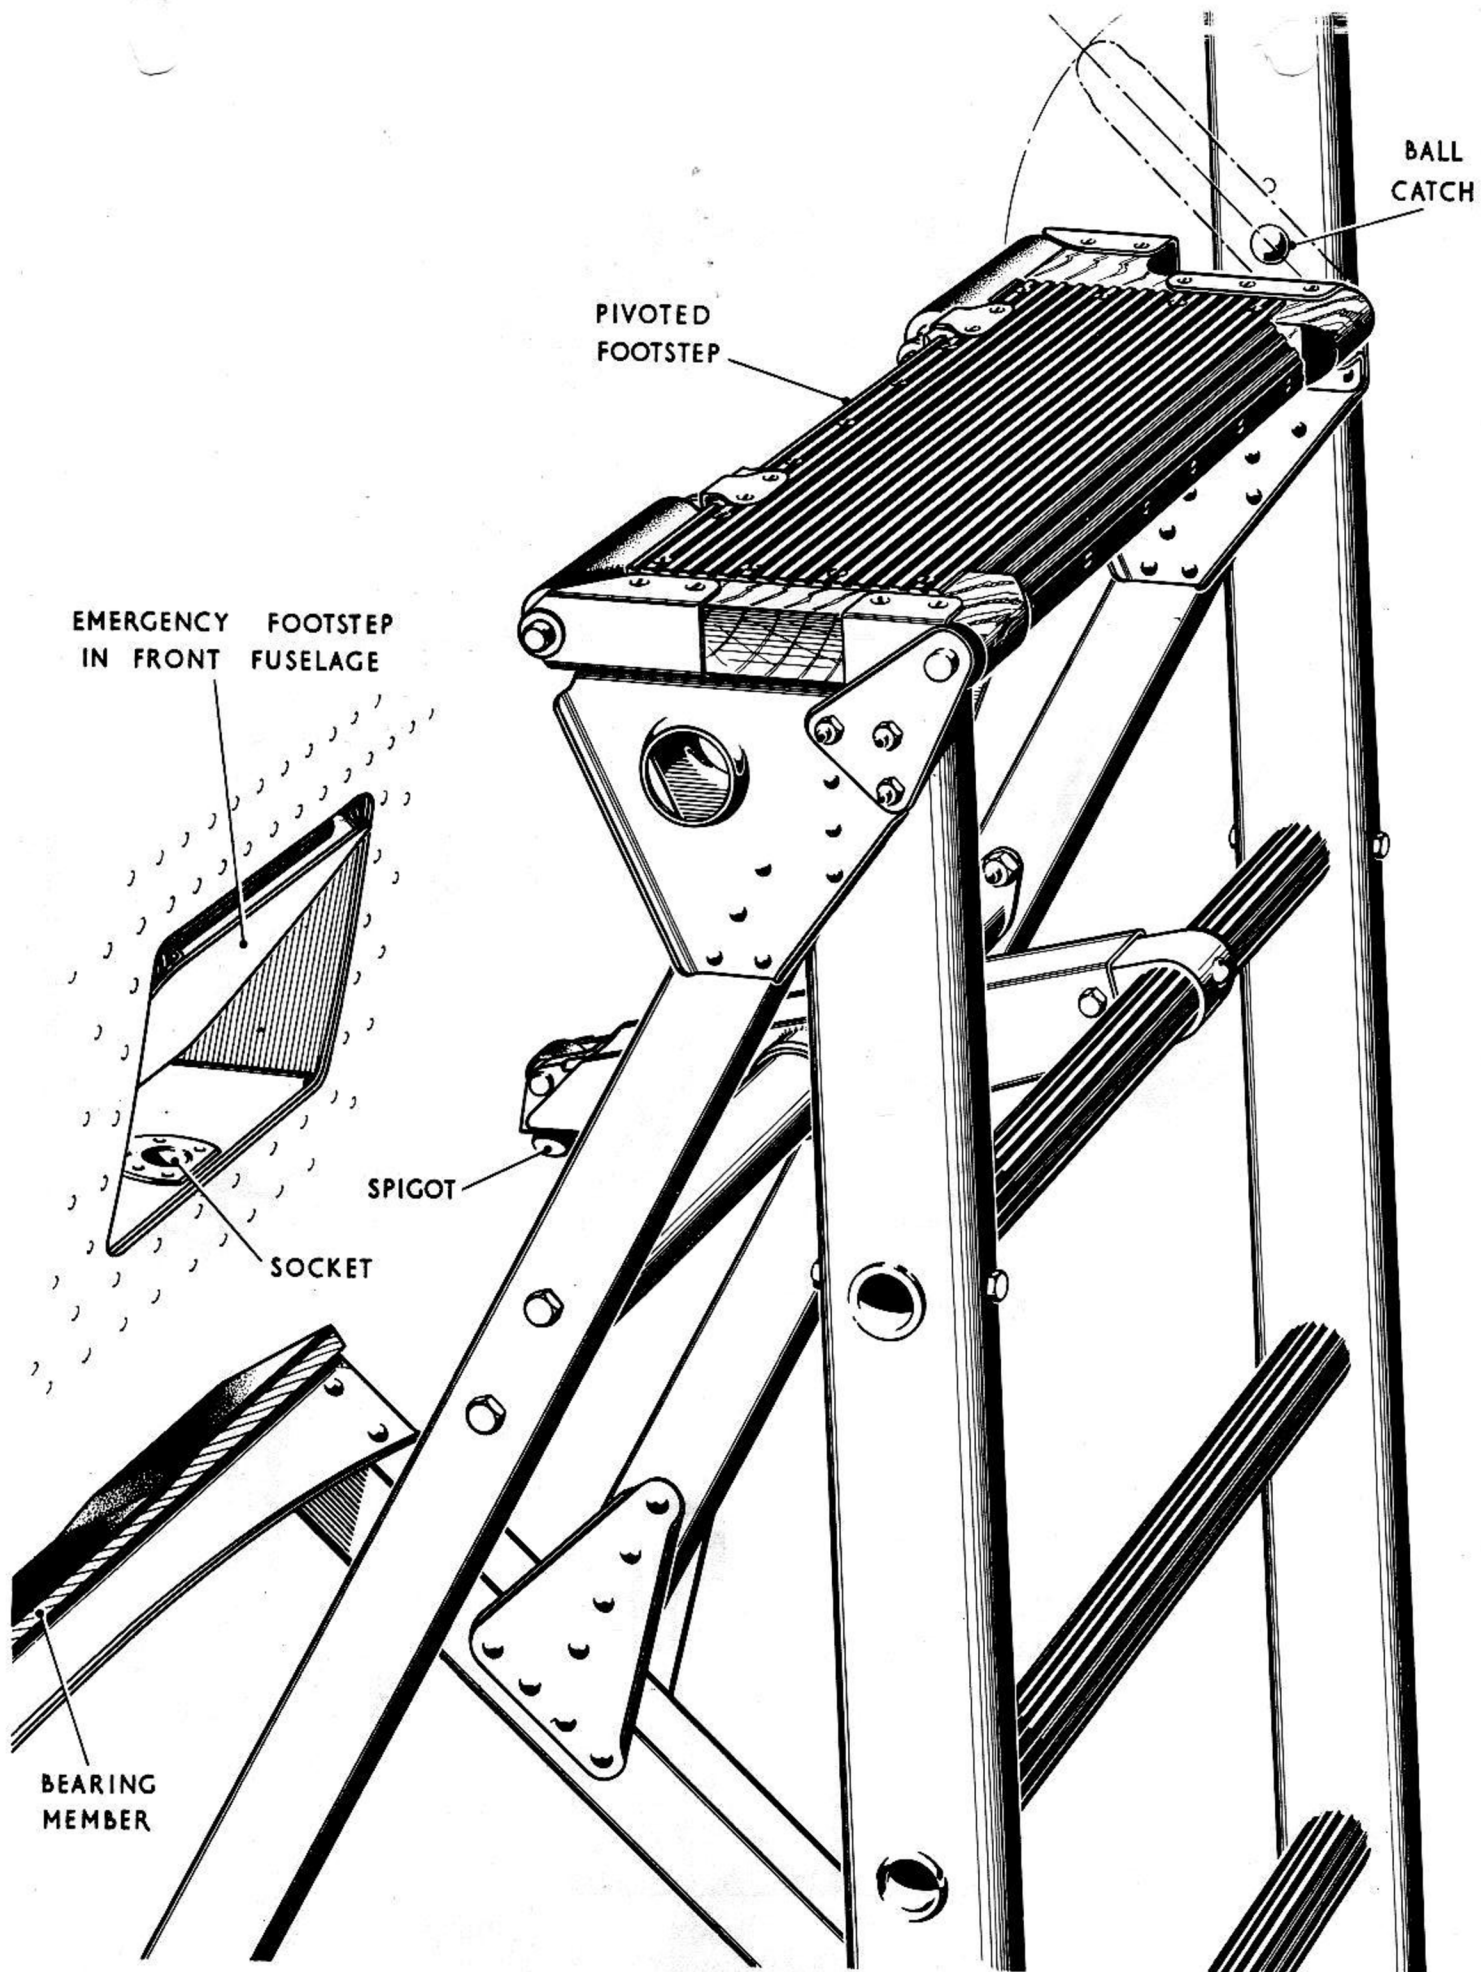

FIG.1-PILOTS LADDER
2. As footsteps, apart from the emergency step located between frames 10 and 11 on the port side of the fuselage, are not provided on this aircraft, a special ladder Pt. No. D.202713 must be employed to gain access to the cabin. This ladder, which is illustrated in fig.1, consists of a tubular structure with triangular supporting members assembled to the rear face and a pivoted footstep support at the top. The supporting members carry a bearing member and a support arm with a spigot, which together with the footstep engage with the aircraft. To protect the aircraft's finish, the footstep and support arm incorporate rubber rollers and the bearing member, which is shaped to conform with the fuselage contour, is also covered with rubber. One of the ladder's upright members is extended above the footstep so that it may be used as a handgrip and also seen from the seat, thus preventing the pilot from taking-off with the ladder fitted. To fit the ladder to the